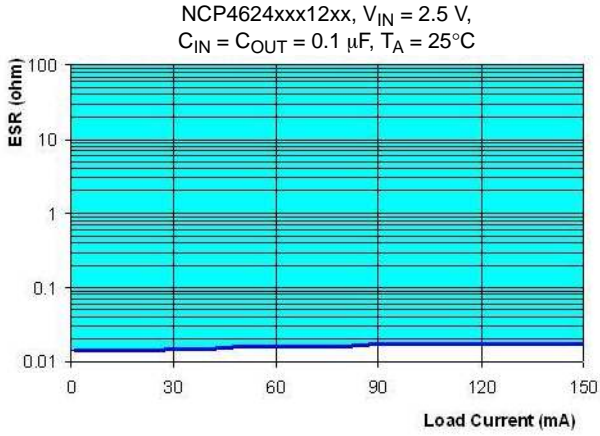

Figure 42. ESR vs. Load Current
- The relation between Output Current I_{OUT} and ESR of the output capacitor are shown below in Figures 42, 43 and 44.